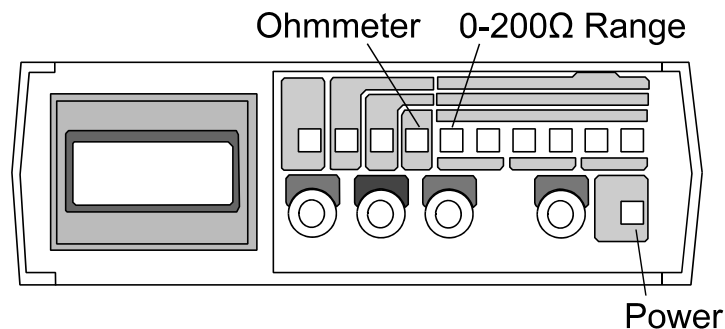

Figure 8-2
- A3. Convert the Fluke 8010A DMM into an ohmmeter by pressing the buttons shown in Figure 8-2.